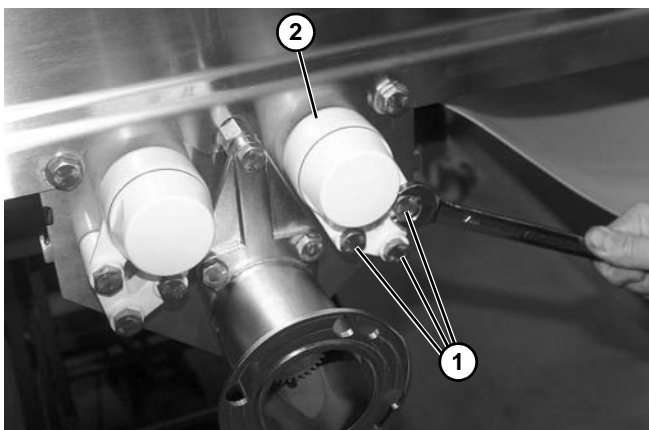

Figure 174
3. Remove three screws (Figure 174, item 1) on each roller bearing housing (Figure 174, item 2).